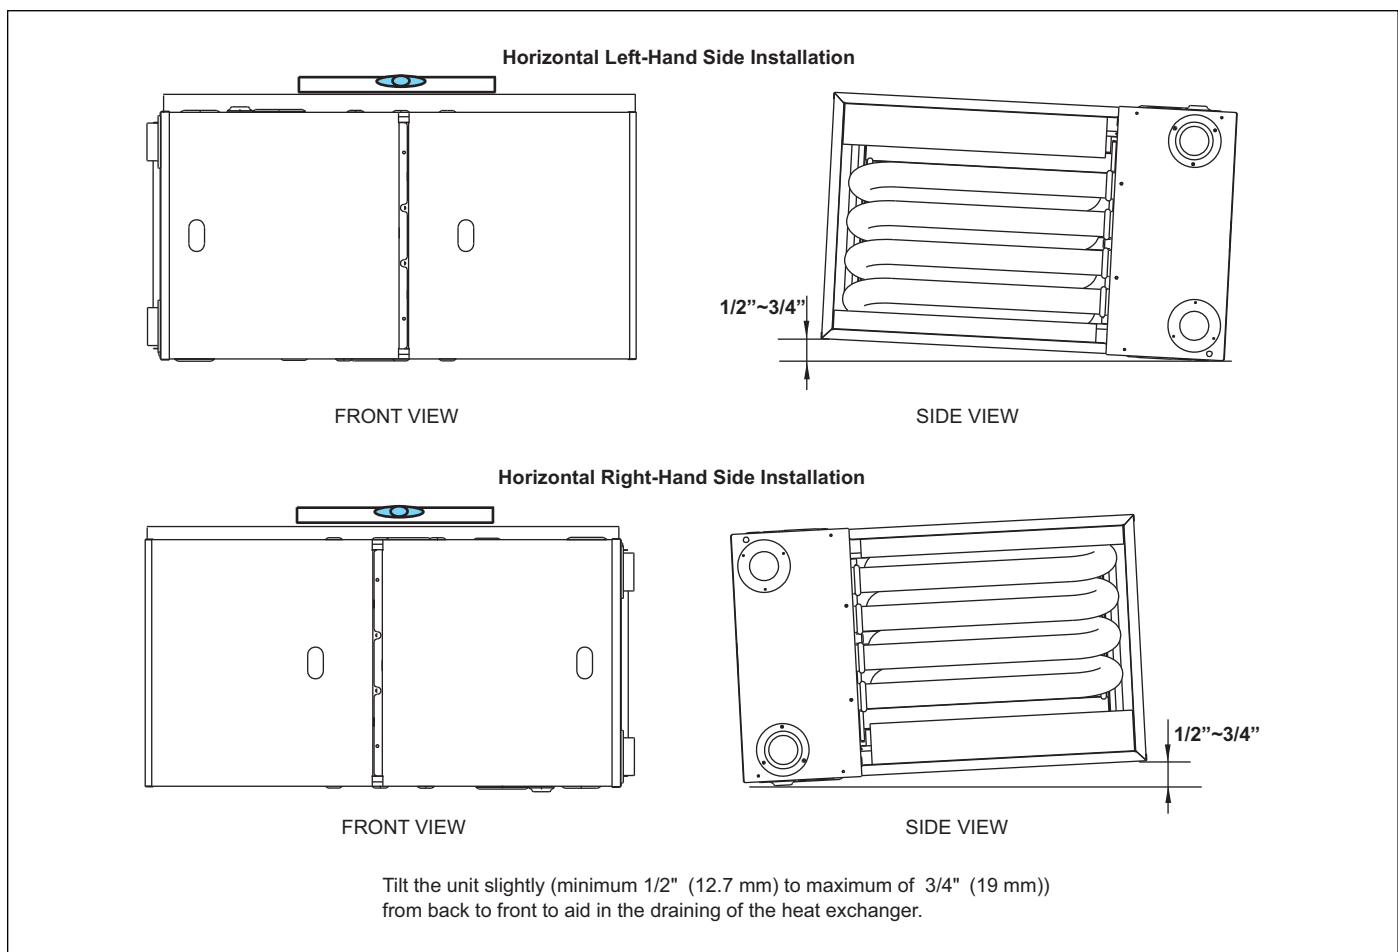

Figure 9 Horizontal Application-Setting Equipment
The furnace can be installed horizontally in an attic or crawl space on bottom or either the left-hand (LH) or right-hand (RH) side (See Figure 9). The furnace can be hung from floor joists, rafters or trusses or installed on a non-combustible platform, blocks, bricks or pad.
Leveling ensures proper condensate drainage from the heat exchanger and induced draft blower. For proper flue pipe drainage, the furnace must be level lengthwise from end to end. The furnace should also have a slight tilt with the access doors downhill ((minimum 1/2" (12.7 mm) to maximum of 3/4" (19 mm)) from the back panel. The slight tilt allows the heat exchanger condensate, generated in the recuperator coil, to flow forward to the recuperator coil front cover. Refer to Figure 9.